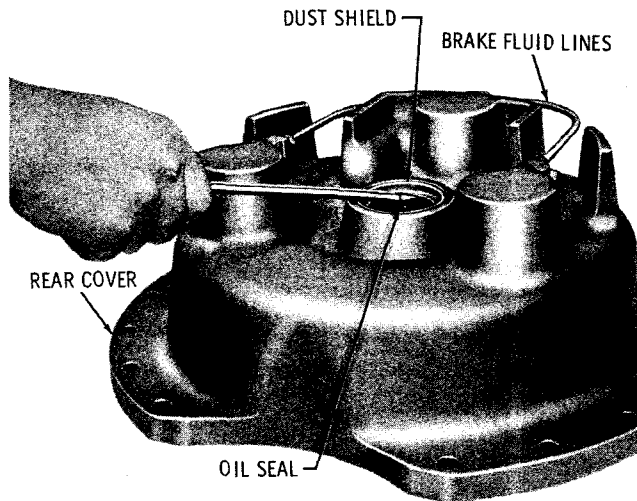

Fig. 6-25. Removing dust shield from rear cover (TTB)
(8) Position the rear cover so that it rests on the mounting flange and remove the dust shield and oil seal (fig. 6-25). Or remove plug 44 (foldout 15,B), if necessary. Remove the brake fluid lines and fittings.
(7) Install the brake fluid lines and fittings (fig. 6-25). Tighten the fittings to 275-325 lb ft (373-440 N·m).